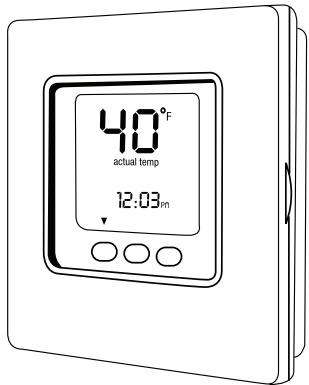

Fig. 4 - Lowest Temperature Setting
2. Close the external manual gas valve (See Fig. 4).